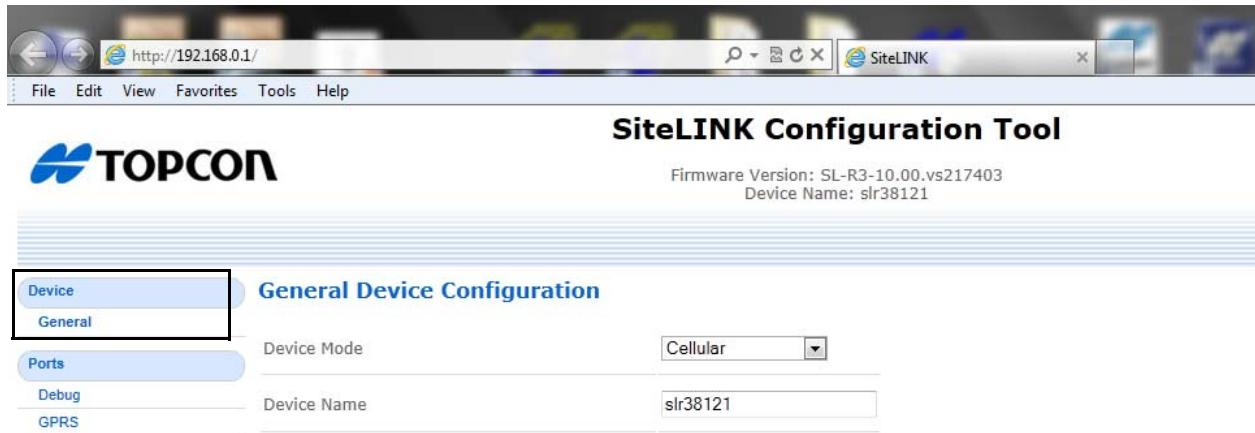

Figure 5. Configure Device Mode to Cellular
1. Click **Device** --> **General** on the left side of the page to enter the **General Device Configuration** page (Figure 5).